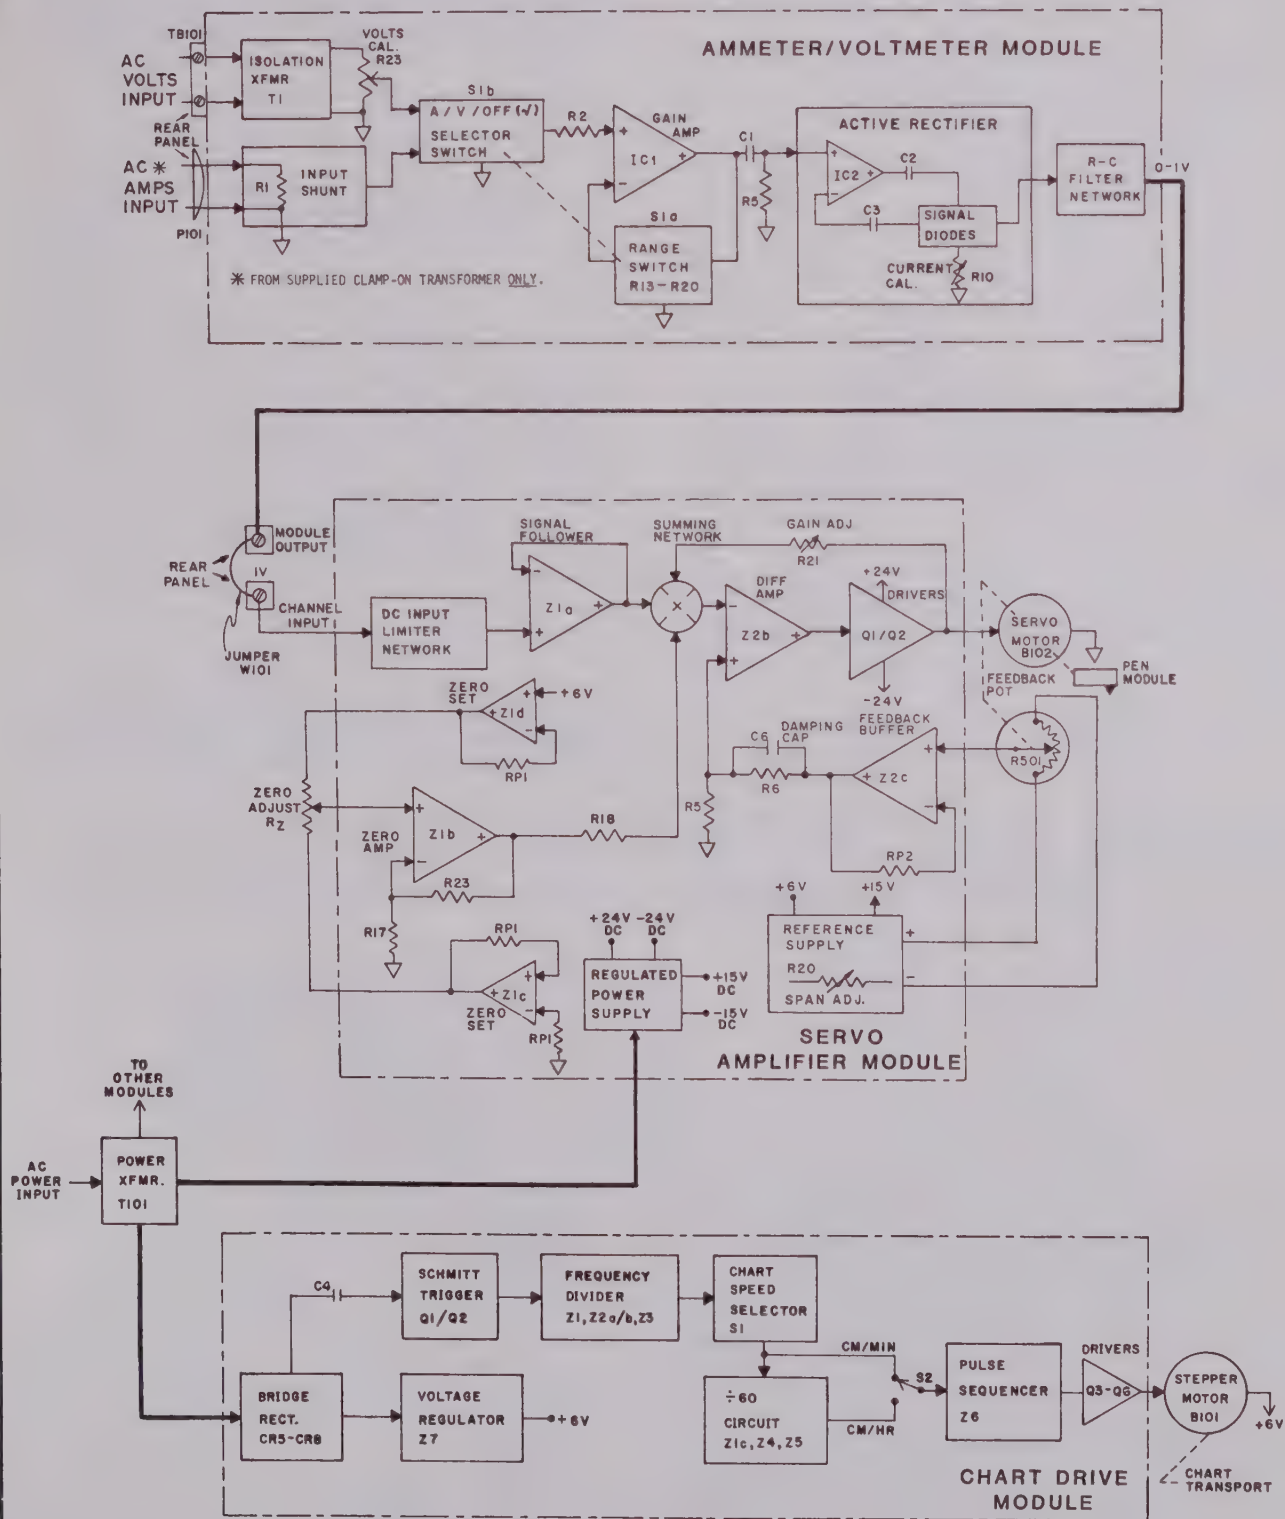

Figure 1-3. Functional Block Diagram of AC Power Measuring and Recording System.
a. Circuit operation for the basic AC measuring system of the recorder is illustrated in the simplified block diagram of Figure 1-3. Each recording channel will include two major subassemblies -- the Ammeter-Voltmeter Module and the Servo Amplifier Module. The single-pen recorder has one complete system, as shown in the block diagram; while the multi-pen recorder has three separate but identical systems. Each instrument also includes an electronic Chart Drive Module and chart transport assembly.